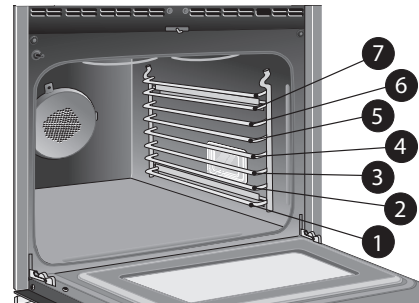

Figure 16: Rack positions
- When using a flat rack with a glide rack, use position 7 for the flat rack and 2 for the glide rack, or place the flat rack in position 2 and the glide rack in position 6. (Figure 16)